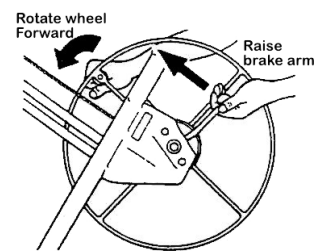

Figure 2
- a) Hold the winch wheel and brake arm as shown in Figure 2. Rotate the winch wheel forward slightly while you lift on the brake arm to release the brake.